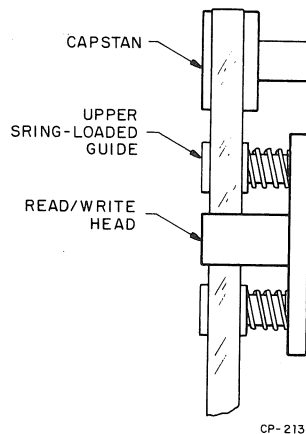

Figure 5-51 Location of Upper Spring-Loaded Guide on Capstan
- b. While tape is running forward, move upper spring-loaded guide (Figure 5-51) away from tape. Skew jitter must not increase more than $2\ \mu\text{s}$ (take care not to touch tape).